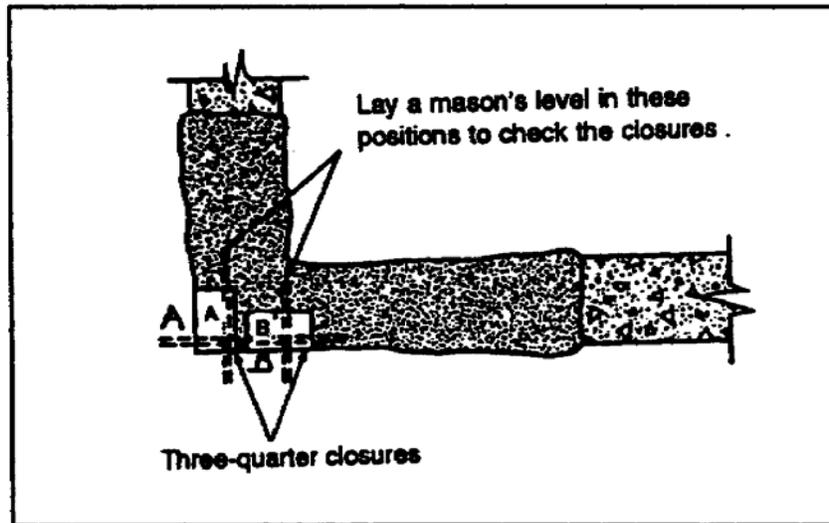

Figure 3-19. Laying three-quarter closure bricks
- b. Second Step. As shown in Figure 3-19, cut and lay two three-quarter closure bricks. Press the closure brick marked A down into the mortar bed until it makes a bed joint 1/2 inch thick. Next spread the mortar on the end of the closure brick marked B and position it to form a 1/2-inch-thick head joint with the closure brick marked A. Check the level of the closure bricks by using a level at the points indicated by the heavy dotted lines. The edges of the closures bricks must be even with the outside face of the foundation.